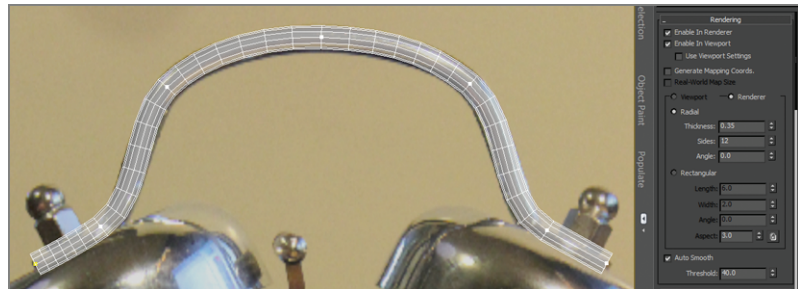

FIGURE 2.24 Rendering enabled on the clock handle line, set to Radial
13. Change Thickness to 0.35 and leave the rest at the default, as shown in Figure 2.24.